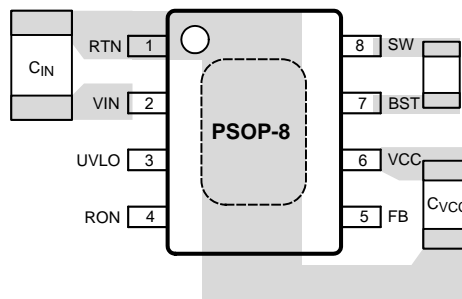

Figure 19. Placement of Bypass Capacitors
1.  $C_{IN}$ : The loop consisting of input capacitor ( $C_{IN}$ ),  $V_{IN}$  pin, and RTN pin carries switching currents. Therefore, the input capacitor should be placed close to the IC, directly across  $V_{IN}$  and RTN pins and the connections to these two pins should be direct to minimize the loop area. In general it is not possible to accommodate all of input capacitance near the IC. A good practice is to use a  $0.1\mu\text{F}$  or  $0.47\mu\text{F}$  capacitor directly across the  $V_{IN}$  and RTN pins close to the IC, and the remaining bulk capacitor as close as possible (Refer to Figure 19 Placement of Bypass Capacitors).
2.  $C_{VCC}$  and  $C_{BST}$ : The  $V_{CC}$  and bootstrap (BST) bypass capacitors supply switching currents to the high and low side gate drivers. These two capacitors should also be placed as close to the IC as possible, and the connecting trace length and loop area should be minimized (See Figure 19 Placement of Bypass Capacitors).